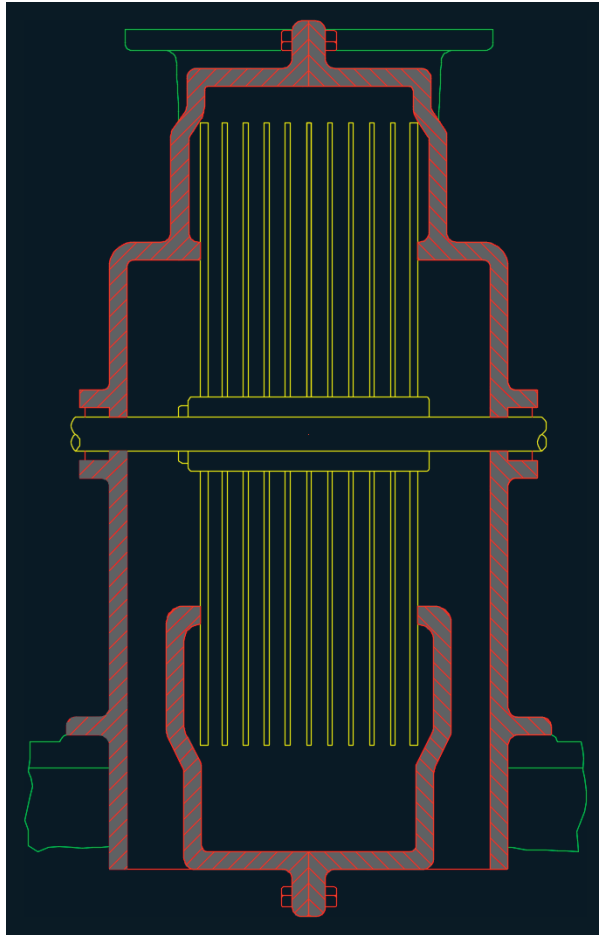

FIGURE 8.18 Symmetrical crosshatching highlights separate metal castings.
9. Type **REGEN**, and press Enter. Figure 8.18 shows the result.